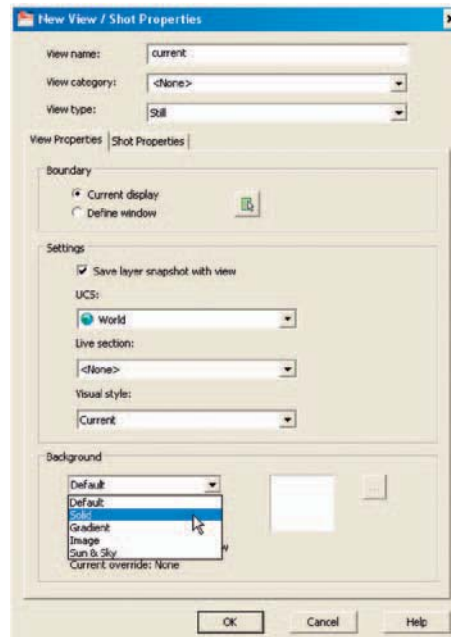
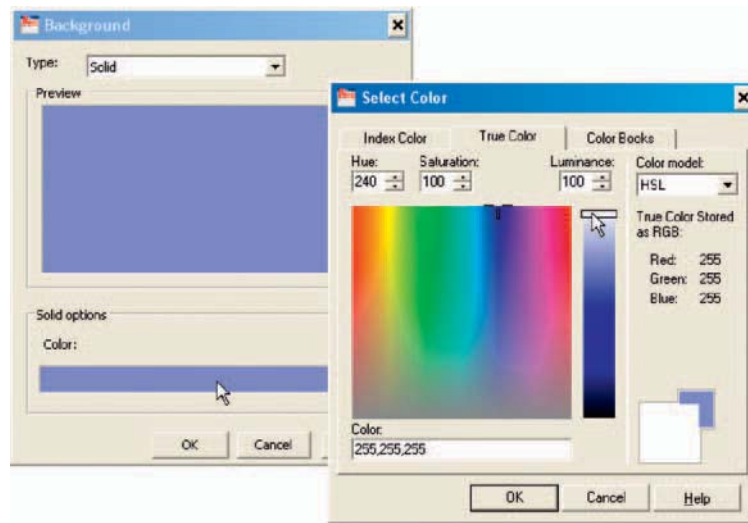

Fig. 15.21 The **New View/Shot Properties** dialog
Fig. 15.22 The **Background** and **Select Color** dialogs
2. The **New View/Shot Properties** dialog (Fig. 15.21) appears. Enter **current** (or similar) in the **View name** field. In the **Background** pop-up list *click* **Solid**. The **Background** dialog appears (Fig. 15.22).
3. In the **Background** dialog *click* in the **Color** field. The **Select Color** dialog appears (Fig. 15.22).